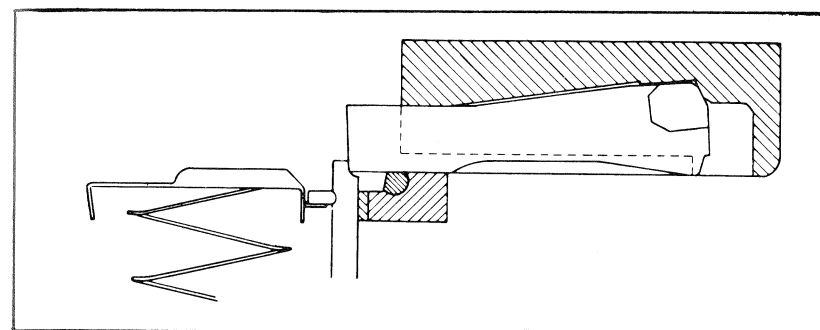

Fig.13
- After the rearward movement of the movable parts, the magazine platform, under the action of its spring, lifts the bolt catch (fig. 13) and it projects a lug at the receiver, avoiding the forward movement of the movable parts.
Operation 2: Tighten the regulator sleeve a click at a time and fire a round after each movement, until the mechanism is held to the rear by the bolt catch (fig. 13).